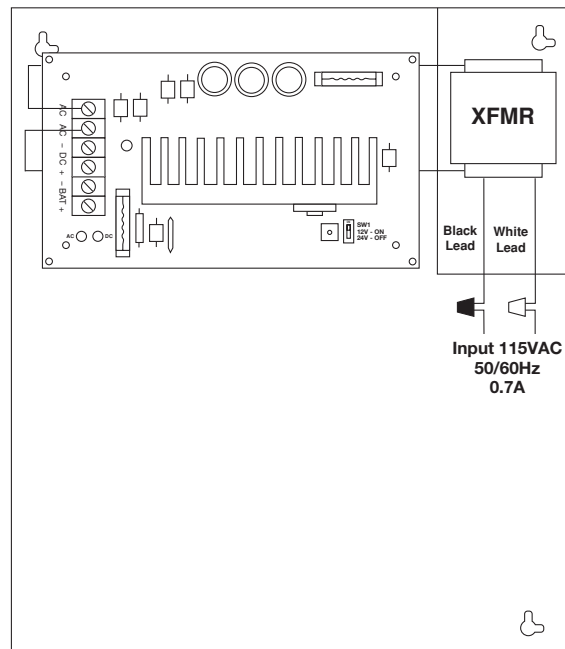

Fig. 1
2. Connect AC power to the black and white flying leads of the transformer (*Fig. 1*). Use 18 AWG or larger for all power connections (Battery, DC output).
4. Connect devices to be powered to the terminals marked [- DC +] (*Fig. 1*).
5. Connect battery to the terminals marked [- BAT +] (*Fig. 1*) on the unit (battery leads included).